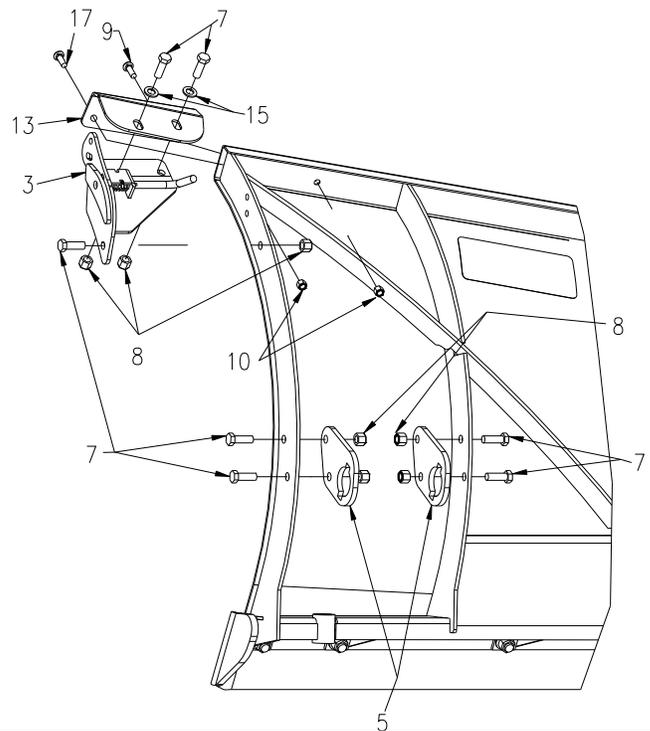
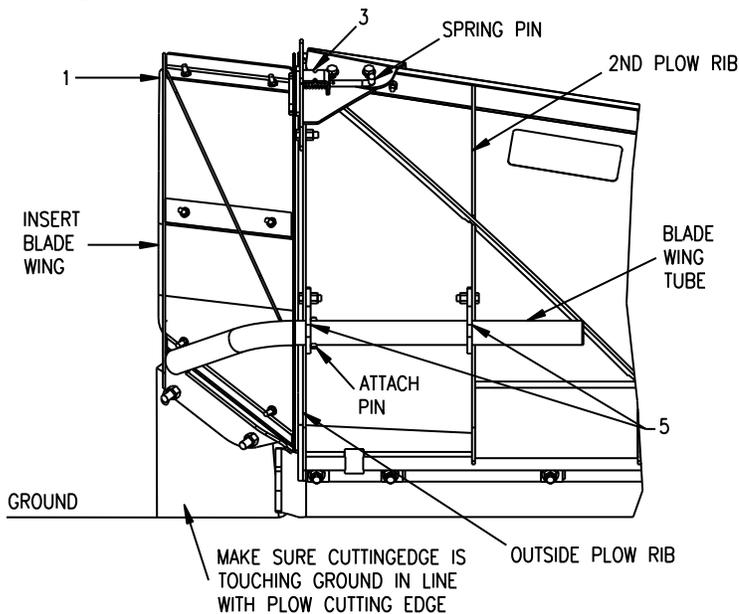

Figure 2. Mount Bracket Locations
Figure 3. V-XT Blade Wing Extension Assembly
- 7) Bolt Plow Rib Bracket (5) to inside of Outside Plow Rib. See Figure 2. Do not tighten fasteners.
- 8) Bolt second Plow Rib Bracket (5) to outside of intermediate rib. See Figure 2. Do not tighten fasteners.
- 9) Insert Driver Side Blade Wing (1) into Plow Rib Brackets (5).
- 10) Slide Driver Side Blade Wing (1) in until Attach Pin passes through first Plow Rib Bracket (5). See Figure 3.